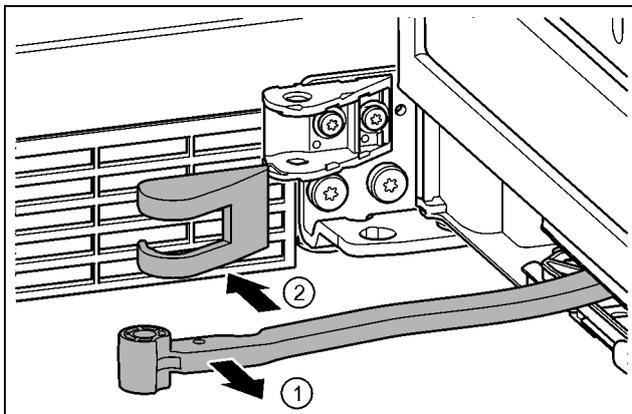

Fig. 16
- ▶ Turn the hinge in the direction of the door. Fig. 16 (1)
- ▶ Remove the bearing bracket cover. Fig. 16 (2)